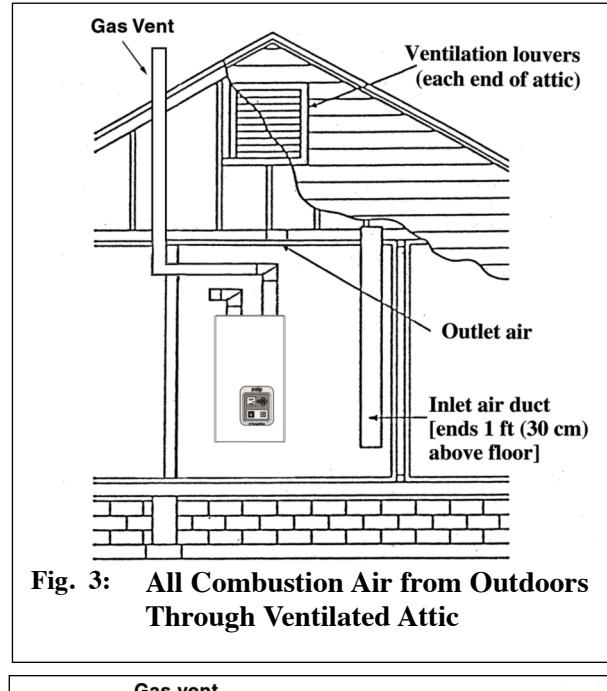

Fig. 3: All Combustion Air from Outdoors Through Ventilated Attic
- Where directly communicating with the outdoors or where communication to the outdoors is through vertical ducts, each opening shall have a minimum free area of 1 sq. in./4000 Btu/hr of total input rating of all equipment in the enclosure. See Fig. 3.